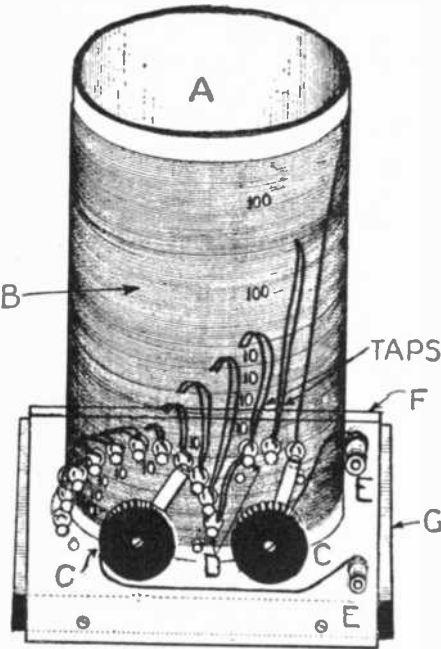

FIG. 1
Fig. 1 shows clearly all the parts completely assembled. The vertical panel is shown as if it were transparent. Here is the list of parts:
Since the loading coil has a great many turns, it is a great advantage in winding it to secure portions of the turns in place so that they will not become loose. Fig. 1 shows the completed coil, and it will assist you in understanding how it is wound.
The third tap from the top of the coil should be long enough to connect to two switch points as shown at (D), Fig. 4, and also shown in Fig. 1. The completed coil has 13 taps counting the two single wires at the ends.
inating art of radio. To this end one's activities may be extended outside the field of broadcast reception. The reception of radio time signals from distant code transmitting stations offers an interesting and useful field of experimentation. To show you how to receive these time signals by adding a very simple and cheap device, namely, a loading coil, to your receiving set, is the purpose of this article. The loading coil (see Fig. 1) was designed by the Bureau of Standards, and this article will make clear every detail of its construction and use.